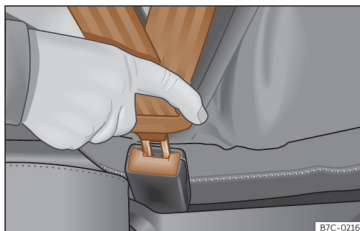

Fig. 42 Insert the latch plate of the seat belt into the buckle.
- Insert the buckle plate in the buckle of the correct seat >>> **Fig. 42.**